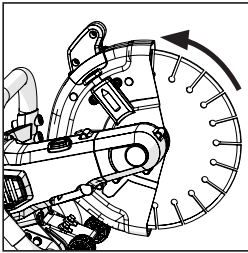

FIG. 5
- Rotate the blade guard to the optimum position using the blade guard rotation handle. **(Fig. 5)**